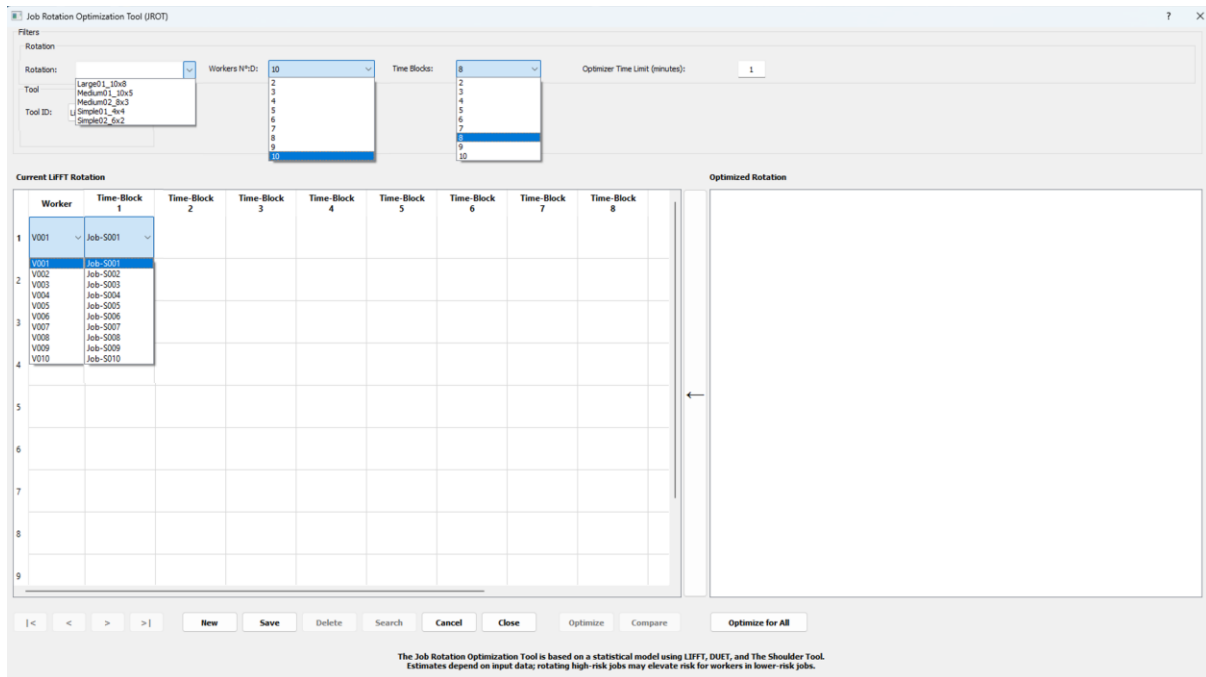

Figure 4. Blank JROT interface with configurable workers and time blocks.
- The matrix size depends on the number of **workers** and **time blocks**, which are configured at the top (see **Figure 4**).